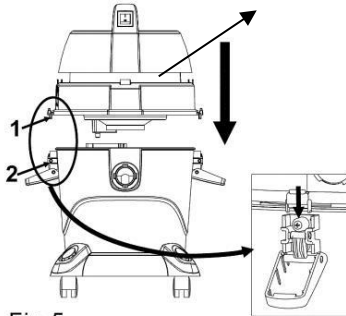

Fig.5
**Step 5:** Insert part 1 (on main body) into part 2 (of barrel). Then lock the latches (Fig. 5).